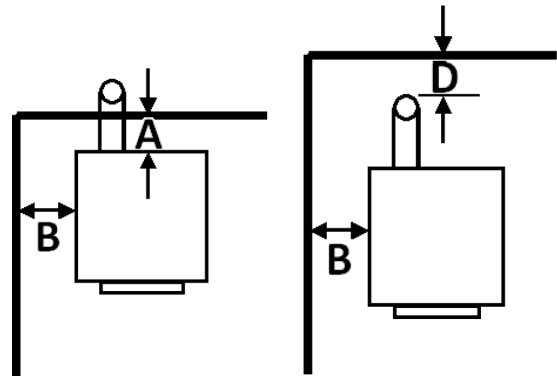

FIGURE 1
The Osburn Hybrid-45 MF has been tested and listed for installation in residential, mobile home.(refer figure 1 to 3)
1. Position stove, adhering to clearances shown in Figures 1 & 2.